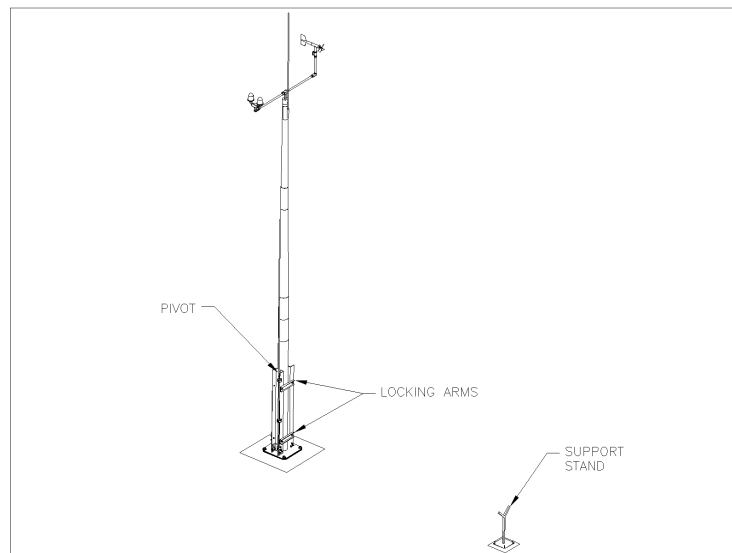

Figure 1-24. 10-Meter Tower and Support Stand
- Carefully lower tower about its pivot point until tower rests on support stand (Figure 1-24).